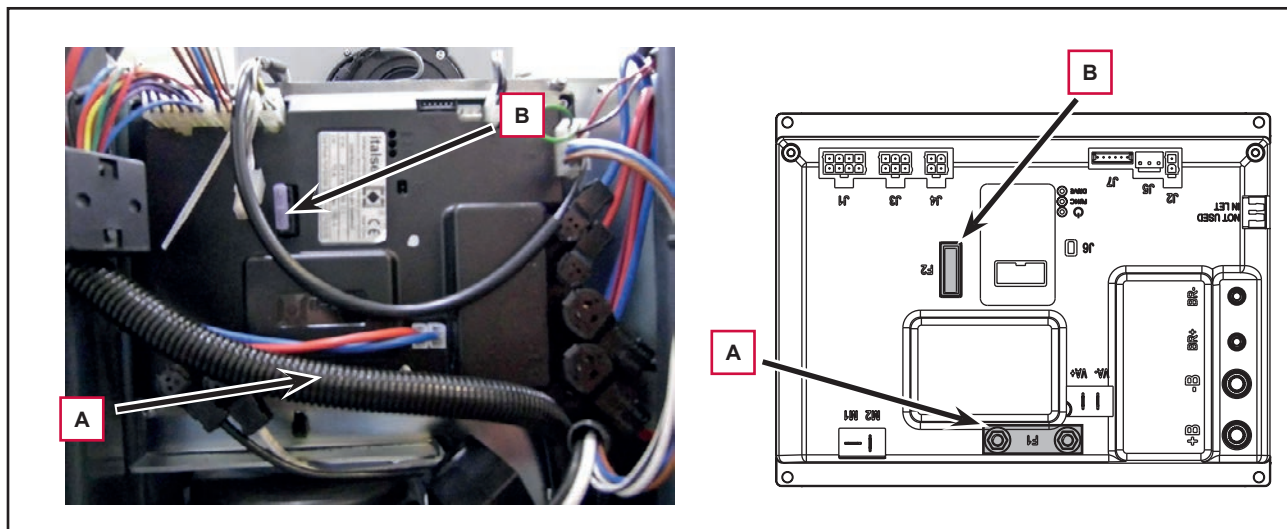

Figure 9
6. Check/replace the following fuses (Figure 9):
- (F1) 100A midi fuse - Function electronic board (A).
- (F2) 3A blade fuse - Signal circuits (B).